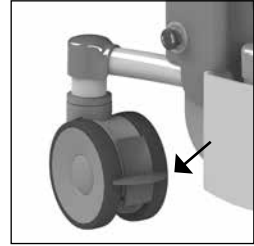

Figure 2 Directional wheel.
- The standard Tango XXL comes with a swivel wheel that is fitted to the left front side of the device (*See figure 2*). The direction of the wheel can be blocked by pushing the green lip on the wheel downwards. This makes it easier to push the device over long distances as the chair is less inclined to move sideways.